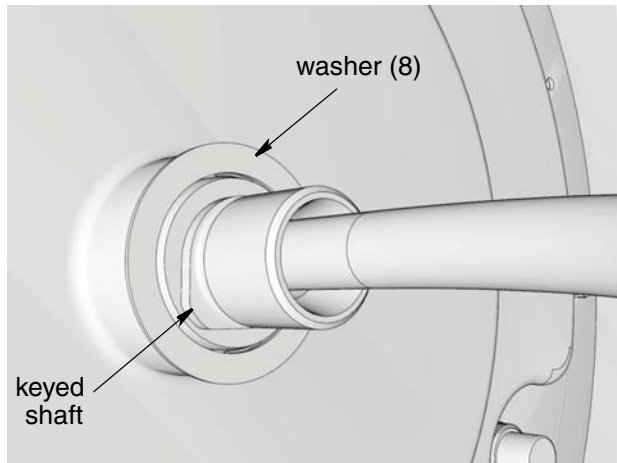

FIG. 12
- Mount spool assembly into arm and pedestal taking care to ensure keyed shaft aligns with arm and pedestal. Ensure washer is in place as shown in FIG. 12.